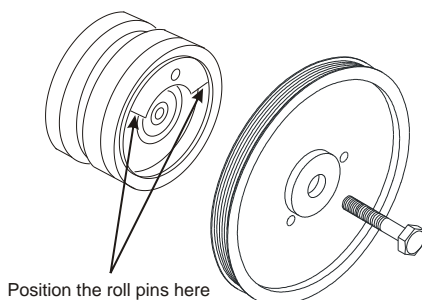

Figure 2.9
- ☐ Place the VR crank pulley in position with the two roll pins on both sides of the balance weight on the OEM pulley. (Figure 2.9)
- ☐ Thread the M18 x 100 mm center bolt with OEM washer into the crankshaft. Install an engine-locking tool and torque the center bolt to 250 ft•lbs.(Figure 2.9) The VMAC crankshaft locking tool can be used again by fitting the two pins on the other end of the tool into the holes on the VMAC pulley.